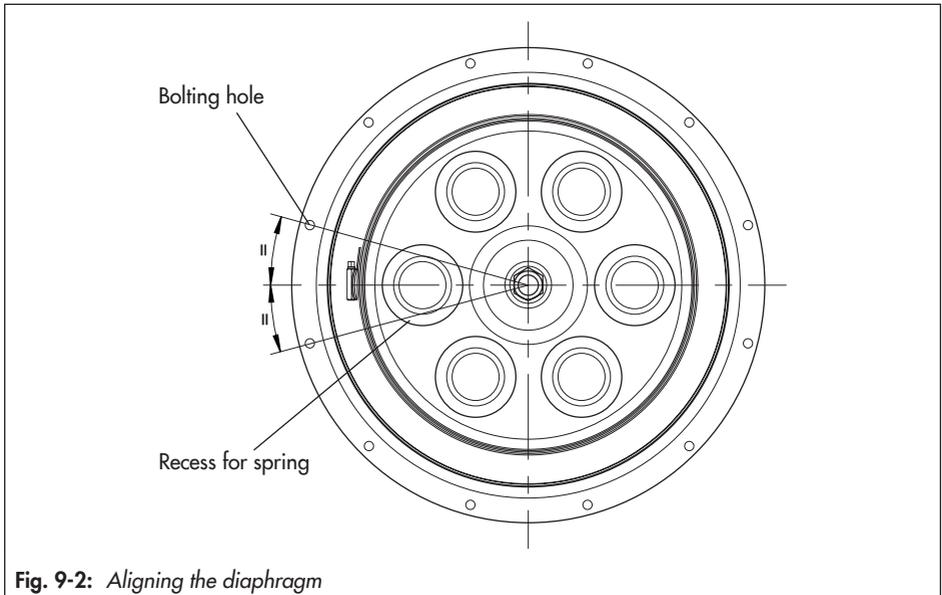

Fig. 9-2: *Aligning the diaphragm*
5. Mount the new diaphragm (A4). Make sure the diaphragm is correctly aligned with the diaphragm plate. The imaginary line through two opposing recesses for springs on the diaphragm plate must be aligned centrally between two bolting holes in the diaphragm (see Fig. 9-2).
Place and align the compressor (A19) beneath the clamp's latch (see Fig. 9-2). Tighten the screw of the latch using a suitable tool. Observe tightening torques.
springs on the diaphragm plate must be aligned centrally between two bolting holes in the diaphragm (see Fig. 9-2).